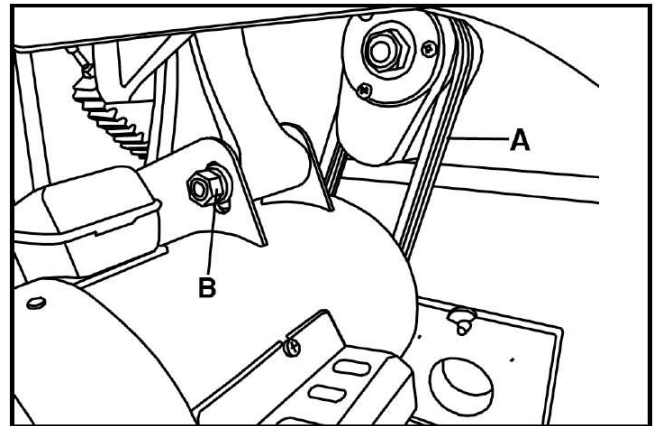

Fig.33
2. Loosen the hex nuts that secure the motor (see **Fig.33**) and raise the motor fully to remove tension on the V-belts. Roll the V-belts off of the arbor and motor pulleys.